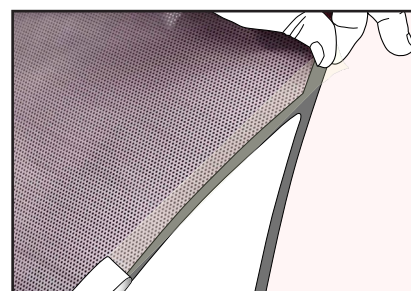

Figure 31
- › Apply 5 mm (0.2 in.) of tape to the film and 5 mm (0.2 in.) to the glazing. (FIG. 31)